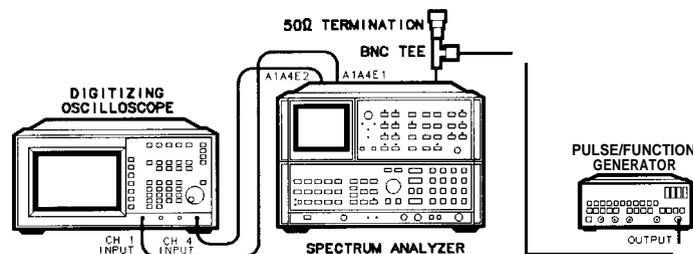
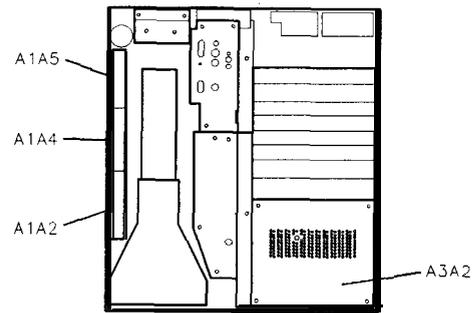
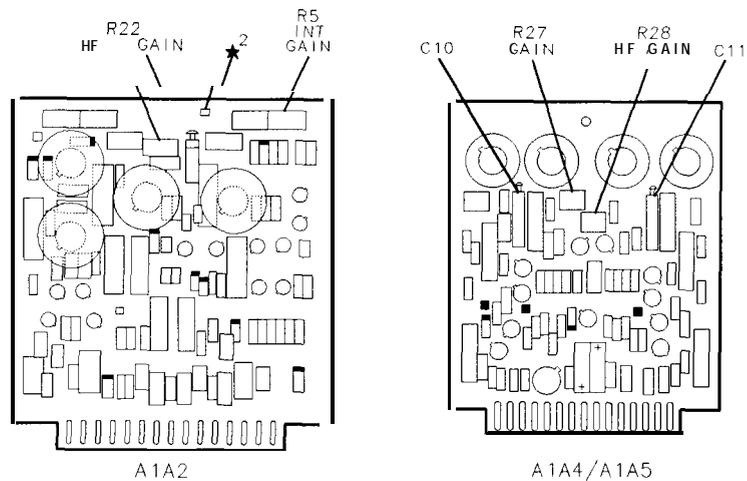
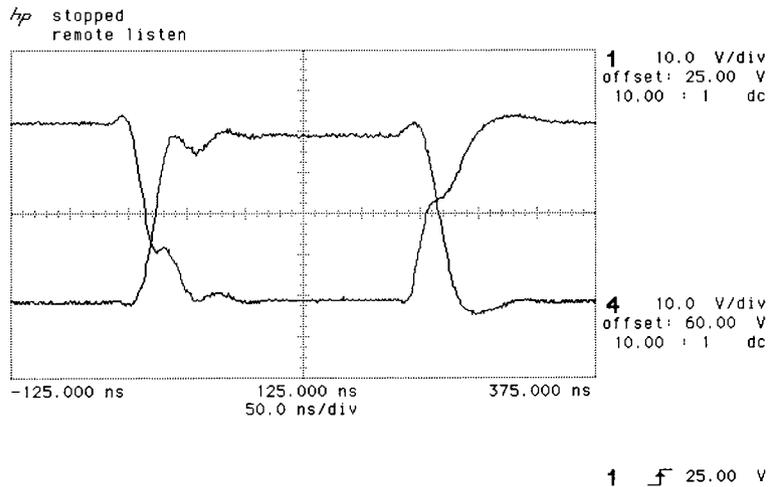

Figure 3-16. Preliminary Display Adjustments Setup
Figure 3-17. Location of A1A2, A1A4, A1A5, and A3A2
Figure 3-18. A1A2, A1A4, and A1A5 Adjustment Locations
Figure 3-19. X+ and X- Waveforms
8. Connect the channel 1 10:1 divider probe to A1A4E1, and the channel 4 probe to A1A4E2, as shown in Figure 3-16. Connect the probe ground leads to chassis ground. See Figure 3-17 and Figure 3-18 for the location of the assemblies and test points.
9. Remove the cover over A3 Digital Storage Section and remove A3A2 Intensity Control Assembly. Insert the Display Adjustment PC board (HP part number 85662-60088) into the A3A2 slot. See Figure 3-17 for the location of the A3A2 assembly.
II. Connect the output of the Pulse/Function Generator to J1 (X input) on the Display Adjustment PC board in the A3A2 slot as shown in Figure 3-16.
14. The X+ deflection and X- deflection waveforms should be superimposed on the oscilloscope display, as shown in Figure 3-19. If necessary, adjust A1A4R7 X POSN and A1A4R27 X GAIN for a centered display of at least four vertical divisions. See Figure 3-18 for the location of the adjustments.
19. Connect the oscilloscope's channel 1 probe to A1A5E1 and the channel 4 probe to A1A5E2. See Figure 3-18 for the location of the test points. Connect the output of the pulse/function generator to J2 (Y input) on the Display Adjustment PC board in the A3A2 slot.